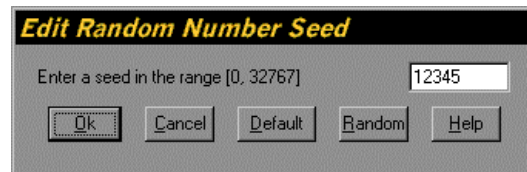

Figure 2.18. Seed Dialog
**Lineback** will save the results of any algorithm in a log file, if such a file has been defined for the project. To specify a log file execute the **Output Log** command from the **File** menu. The **Output Log** dialog will be shown. The Output Log dialog is illustrated in Figure 2.18. Specify the name and location of the output log file and press **Ok** to accept the new values. The output log file has by default the extension *log* and is a pure ASCII file. The amount of information written to the output log file for each algorithm depends on the Report Level.
Several algorithms must make random choices at certain points during their execution. For example, the simulated annealing algorithms select randomly two facilities to be tested for an exchange improvement. These random choices are made based on the next pseudo-random number. The sequence of these random numbers depends on the starting number of the sequence, which is called the seed. When started from the same state, algorithms will generate the same solution if it has been given the same seed. You can set the random number seed by executing the **Seed** command from the **Edit** menu. The **Seed** dialog will be shown. The Seed dialog is shown in Figure 2.18. Set the seed to 12345. Press **Ok** to accept the new value.